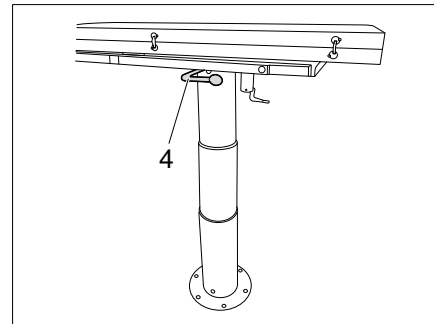

Fig. 124 Folding table, lowerable
- Release the lever (Fig. 124,4) for lowering the table and press the table down.